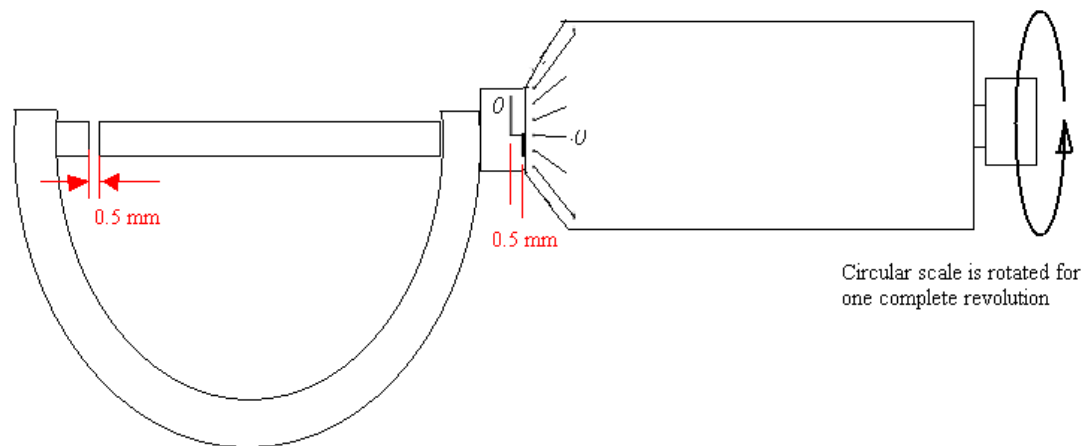
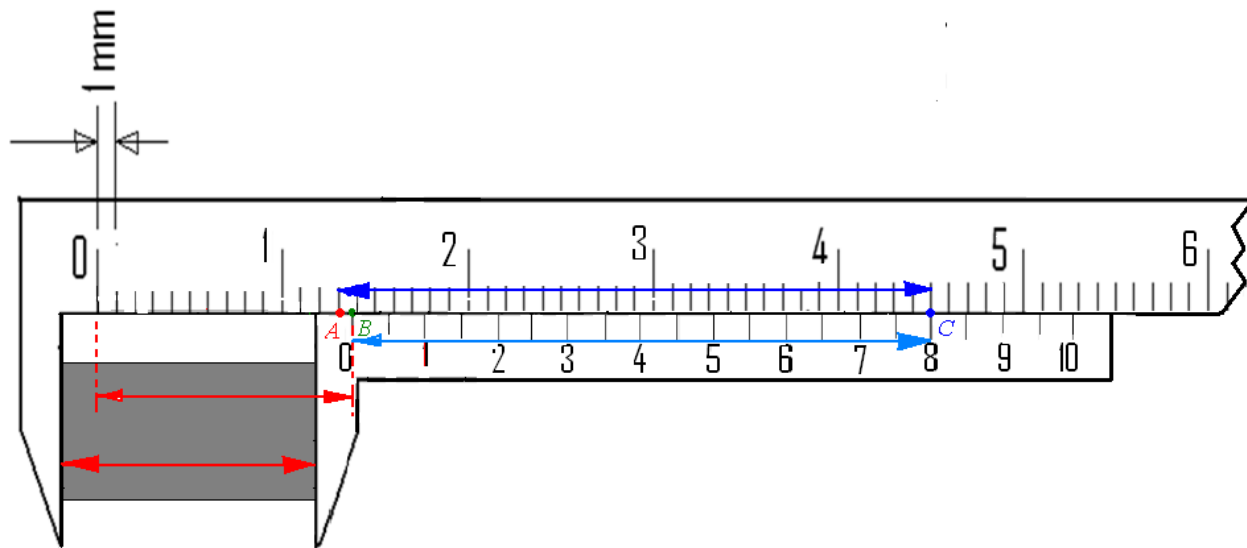

Figure 3: The position of the circular scale on the linear scale when it is rotated for one complete revolution
Figure 2: Same slide calipers containing a body between its two jaws.
Figure 2: If the screw gauge is free from mechanical error, when the screw touches the left end of the frame of screw gauge, then 0 of circular scale coincides with the linear scale
To do so suppose initially 0 mark of circular scale coincided with the linear scale (figure 2) and then the position of the circular scale on linear scale was at 0. Now the circular scale is rotated for one complete revolution and 0 of circular scale has been brought back to coincide with the linear scale (figure 3). Here we see circular scale is displaced for 0.5 mm along the linear scale.
We can see, for this body it is the mark of 13 mm. Let's denote it by A (figure 2) and the 0 of Vernier by B.
Figure 3: A slide calipers with mechanical error, where 0 of Vernier scale lies at left of the 0 or main scale. In figure 3 we see the 0 of Vernier scale (B) lies at left of the 0 of main scale (D). We have to add this distance BD with the measured length of any body to correct it.